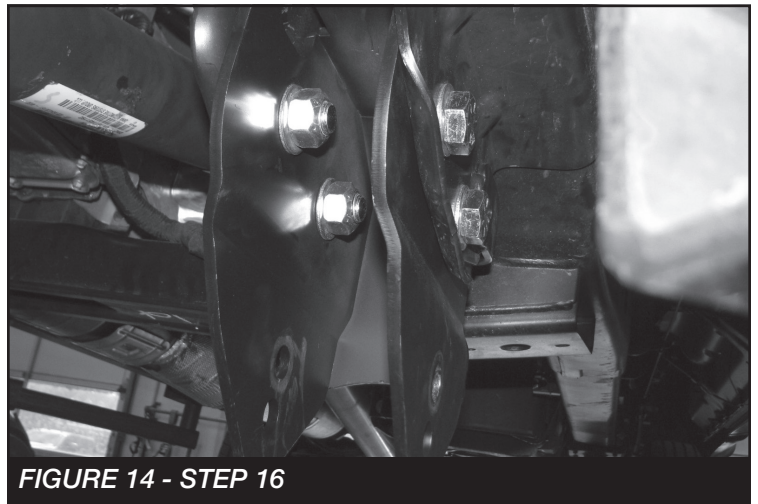

FIGURE 14 - STEP 16
16. Install FT30651 (radius arm drop brackets). Place the brackets into the factory radius arm pockets. Attach the bracket to the factory bracket using the supplied 3/4" x 1-1/2" bolts, nuts and washers through the original holes in the frame. Torque bolts to 317 ft-lbs. **SEE FIGURE 14**